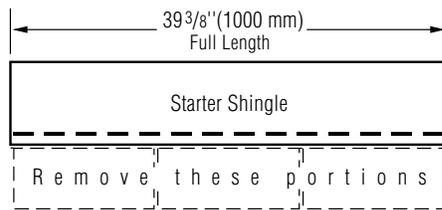

Figure 10-13: Make starter shingles by removing the lower tabs.
1. Use CertainTeed Swiftstart® or a starter course consisting of the shingles from which the lower tabs have been removed (Figure 10-13). Remember, the sealant on starter courses should lay as close as possible to the eaves edge of the roof.
3. Continue with full-length starter-course shingles along the eaves. (Figure 10-13).
1. Use CertainTeed Swiftstart or a starter course consisting of the shingles from which the lower tabs have been removed (Figure 10-13). Remember, the sealant on starter courses should lay as close as possible to the eaves edge of the roof.
- Use CertainTeed Swiftstart® or a starter course consisting of the shingles from which the lower tabs have been removed (*Figure 10-13*). Remember, the sealant on starter courses should lay as close as possible to the eaves edge of the roof.